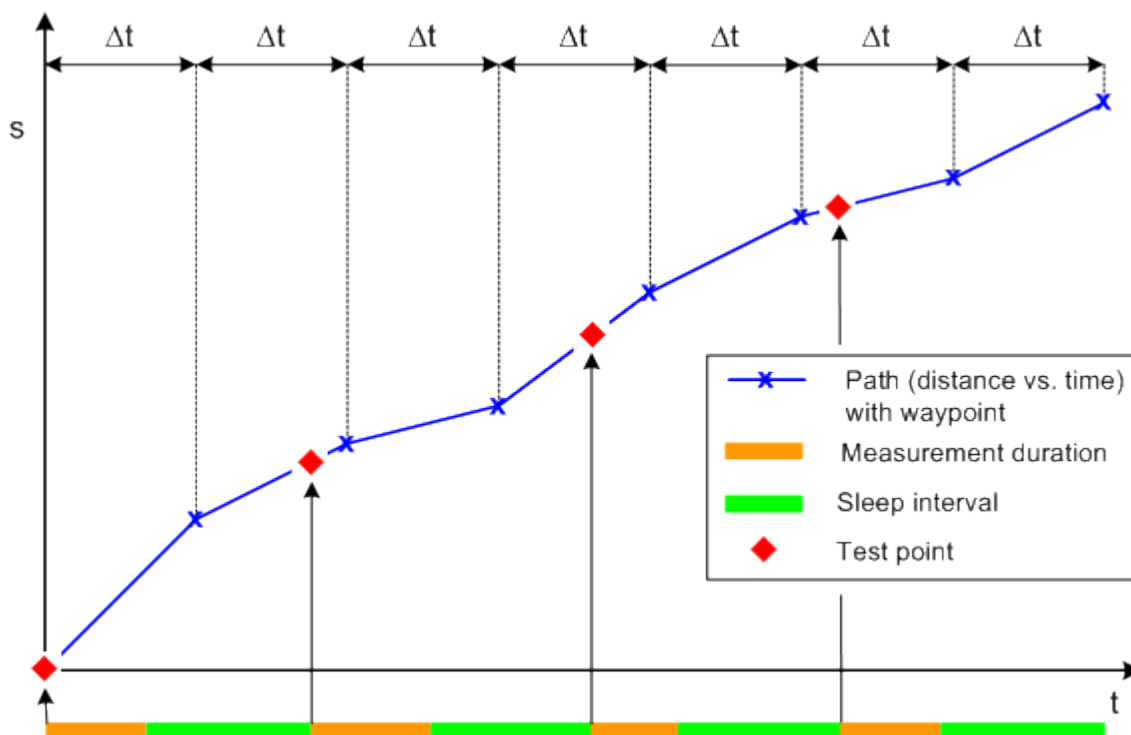

Fig. 4-10: Test points for moving GPS scenarios
3. For speed-based calculation: Calculate the resolution as the distance between the first two waypoints Δs divided by the speed v : $\Delta t = \Delta s_1/v$. The speed (i.e. the slope of the blue polygonal curve in figure 4-10) varies after each waypoint because the distance between the waypoints is not necessarily constant ($v_n = \Delta s_n/\Delta t$).